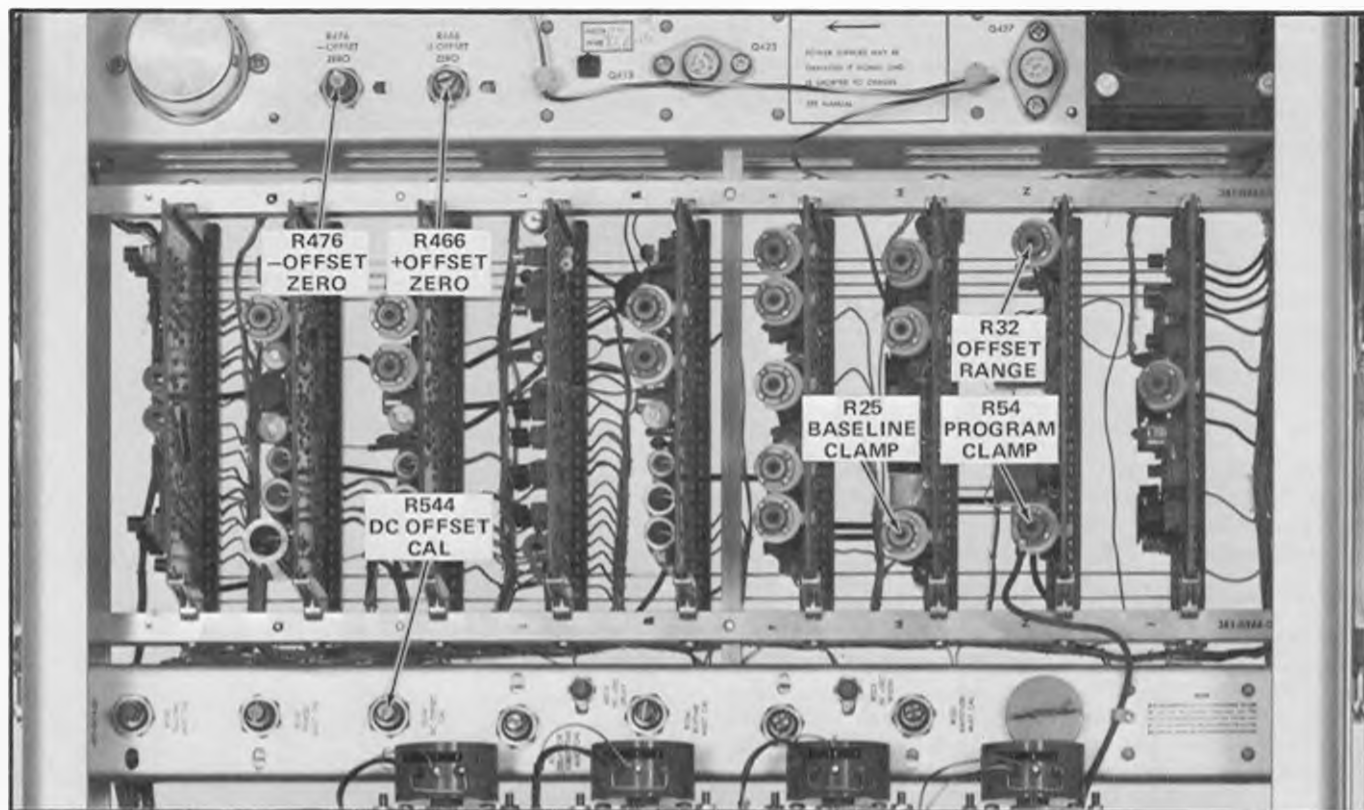

Fig. 6-7. Location of offset and baseline clamp adjustments on Attenuator and Output Amplifier circuit cards and on Type R116 chassis.
g. ADJUST—R32, the OFFSET RANGE adjustment on the Attenuator circuit card (see Fig. 6-7), if the offset range is not correct.
n. ADJUST—R466, the + OFFSET ZERO adjustment on the Type R116 chassis (see Fig. 6-7), if the offset level is not correct.
t. ADJUST—R476, the — OFFSET ZERO adjustment on the Type R116 chassis (see Fig. 6-7), if the offset level is not correct.
e. ADJUST—R25, the BASELINE CLAMP adjustment on the Output Amplifier circuit card (see Fig. 6-7), if the baseline level is not correct.
f. ADJUST—R544, the DC OFFSET CAL adjustment on the Type R116 chassis (see Fig. 6-7), if the display is not correct.
e. ADJUST—R466, the + OFFSET ZERO adjustment on the Type R116 chassis (see Fig. 6-7), if the baseline level is not correct.
f. ADJUST—R85, the RANGE CAL adjustment on the Pulse Shape Generator circuit card (see Fig. 6-7), if the pulse amplitude is not correct.
l. ADJUST—R532, the AMPLITUDE MULT CAL adjustment on the Type R116 chassis (see Fig. 6-7), if the display is not correct.